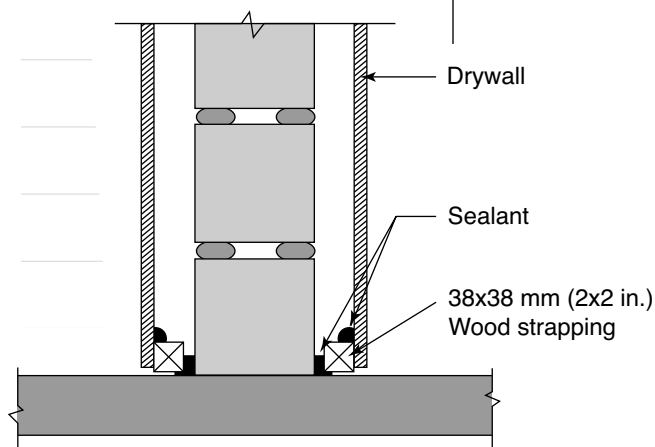

FIGURE 8
- ◆ Add drywall to meet the recommendations in Appendix A. Alternatively, remove the drywall and re-install it with wood strapping (see Figure 8).